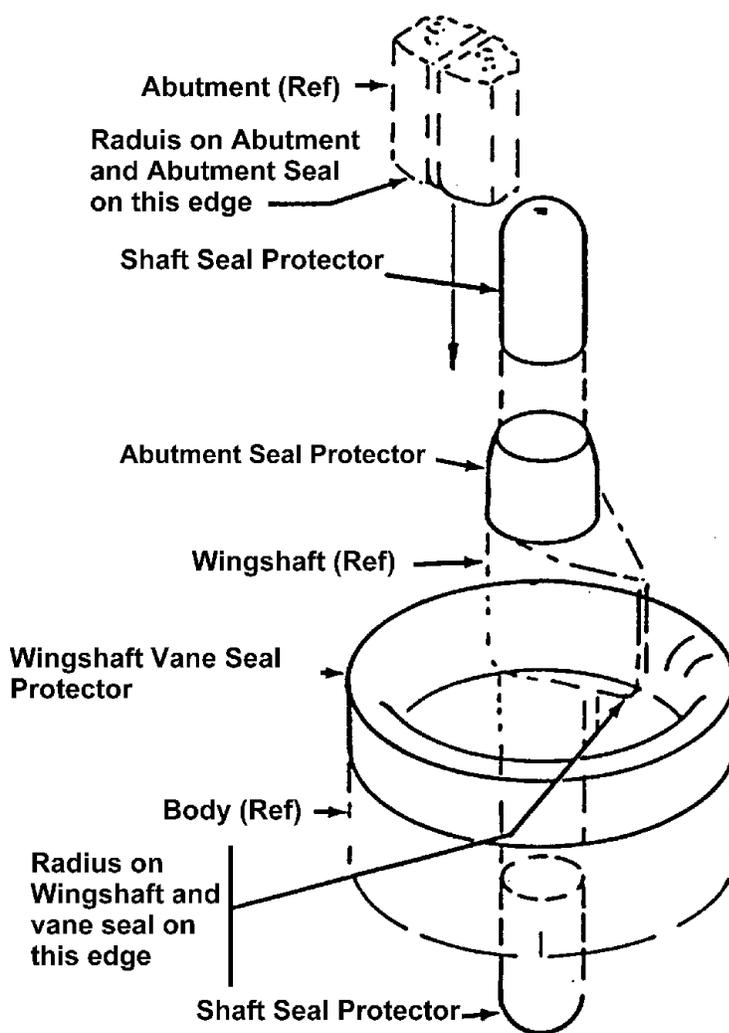
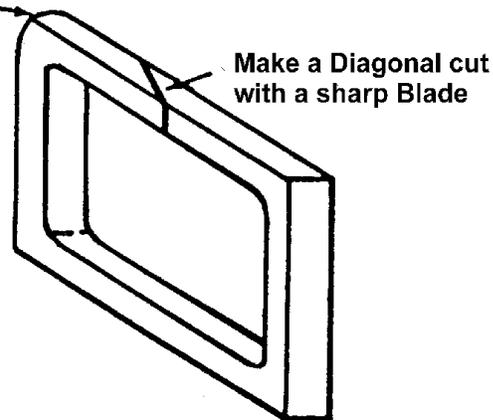

Figure 2. Special Assembly Tools Used to Protect Seals. See Table IV on Page 6 for Part Numbers.
Figure 3. Cut abutment seal to permit installation on abutment
Special tools are recommended for use during reassembly of an HS Series Actuator. Alternate procedures, for use when tools are not available are provided herein but are not recommended. See figure 2 for where tools are used see Table IV on page 6 for parts listing.
d. Place shaft seal protector (see figure 2) in body (19) and wing shaft vane seal protector (see figure 2) on the outside of body (19). Slide the wing shaft fully into the body being sure the edge radius on the wing shaft matches the radius on the bottom of the bore in the body. Remove the shaft seal protector.
e. If removed, install dowels (16) in abutment (15). Stretch O-ring (18) around the abutment and seat in the seal groove. Make a centrally located diagonal cut through the side of abutment seal (17) that contacts the body (see figure 3). Use a razor blade or utility knife, to make the cut. Place the abutment seal (17) in position on abutment (15). The diagonal cut must be on the side of the abutment next to the body, and the edge radius on the abutment seal and abutment must coincide. Apply a liberal coating of lubricant to the abutment seal. Place abutment vane seal protector (see figure 2) on the wing shaft and wing shaft vane seal protector on the outside of the body. Slide the abutment into place being sure the edge radius on the abutment matches the radius on the bottom of the body bore. Dowels (16) must seat fully in the holes in body (19).
f. Install the end seal O-ring (11) on the outer lip of body (19) and lubricate sparingly.
g. Install shaft seal O-ring (9) and shaft seal (8) in end (3).
h. Place hub seal spring (7), hub seal ring (6), and hub seal (5) in end (3) being sure the hub seal (5) fits snugly and that it is free to move axially under the pressure of hub seal spring (7). Apply a heavy coating of lubricant around hub seal (5). The lubricant must keep the hub seal correctly positioned when end (3) is turned over to install it on body (19). Place shaft seal protector (see figure 2) on the end of wing shaft (12). Position end (3) over body (19) and wing shaft (12) and press it onto the body being sure the cap screw and dowel pin holes are aligned. Remove the shaft seal protector from the wing shaft. If the shaft seal protector is not available, use caution to avoid tearing or distorting shaft seal (8) by the wing shaft.
i. Install cap screw (2) in end, and tighten all cap screws lightly. Install dowels (4) into the body and head assembly. Using a "star pattern" tighten caps crews evenly. Newer Style Actuators have waxed cap screws; older units have hex head screws. See table III for torque specs
j. If removed, replace nameplate (21) and secure to body (19) with drive screws (20).
k. Install V-rings (1) on each end of the wing shaft. Work the V-rings onto the wing shaft being careful to avoid cutting the inner diameter with the sharp edges on the wing shaft.
l. Install the shipping plugs (22) to prevent dirt from entering the actuator ports.